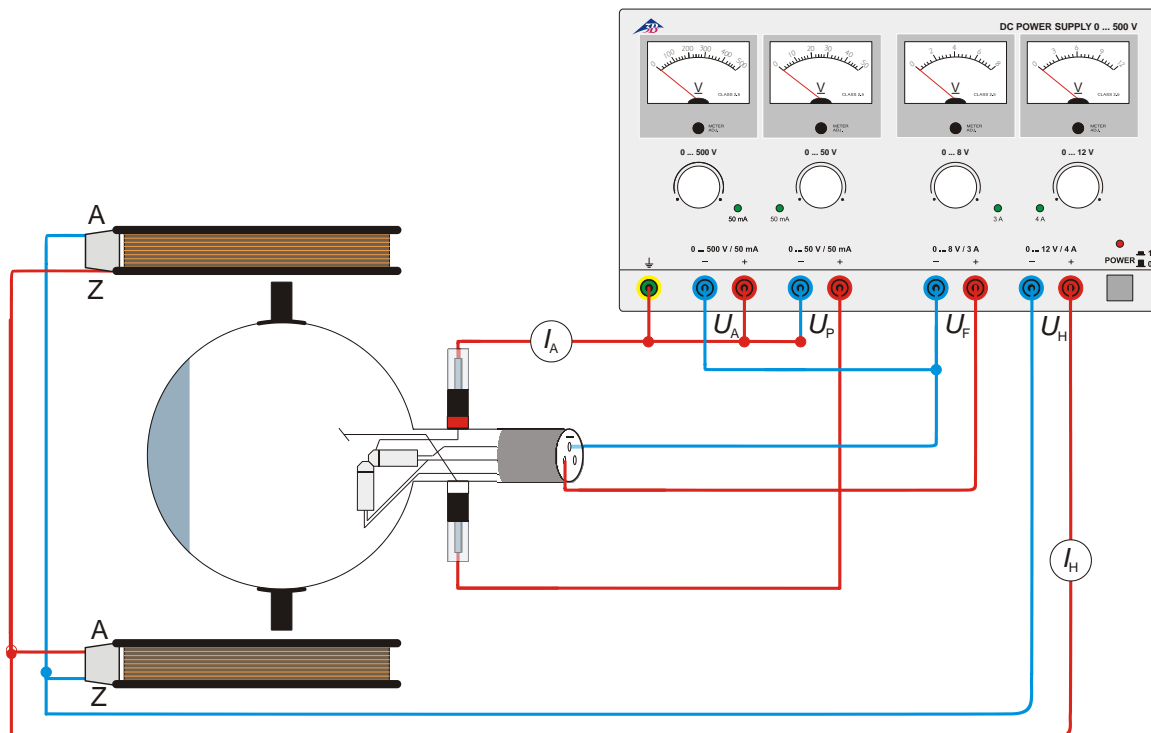

Fig. 4 Determining  $e/m$  using the axial electron gun
- Connect up the tube as in Fig. 4.